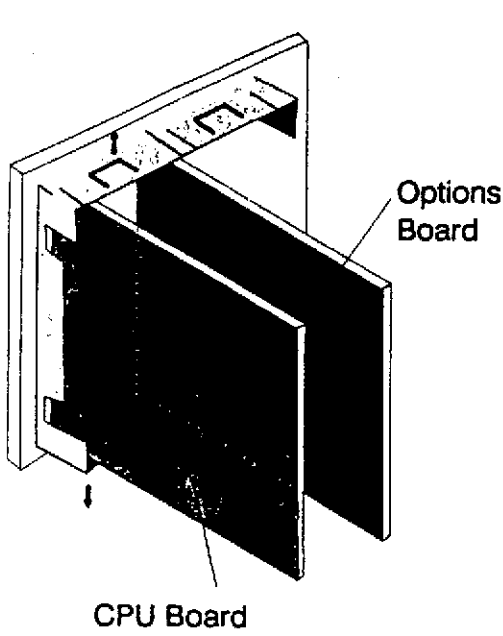

Figure 5-1 Detaching the PCBs from the Front Panel
1. Grasp the guides (projecting rearwards from the bottom of the front panel - see Figure 5-1) and pull them downwards until the bottom of the PCBs are released and can be withdrawn backwards; grasp the guides at the top of the front panel and disengage the top edges of the PCBs. The two PCBs may now be removed from the front panel assembly.